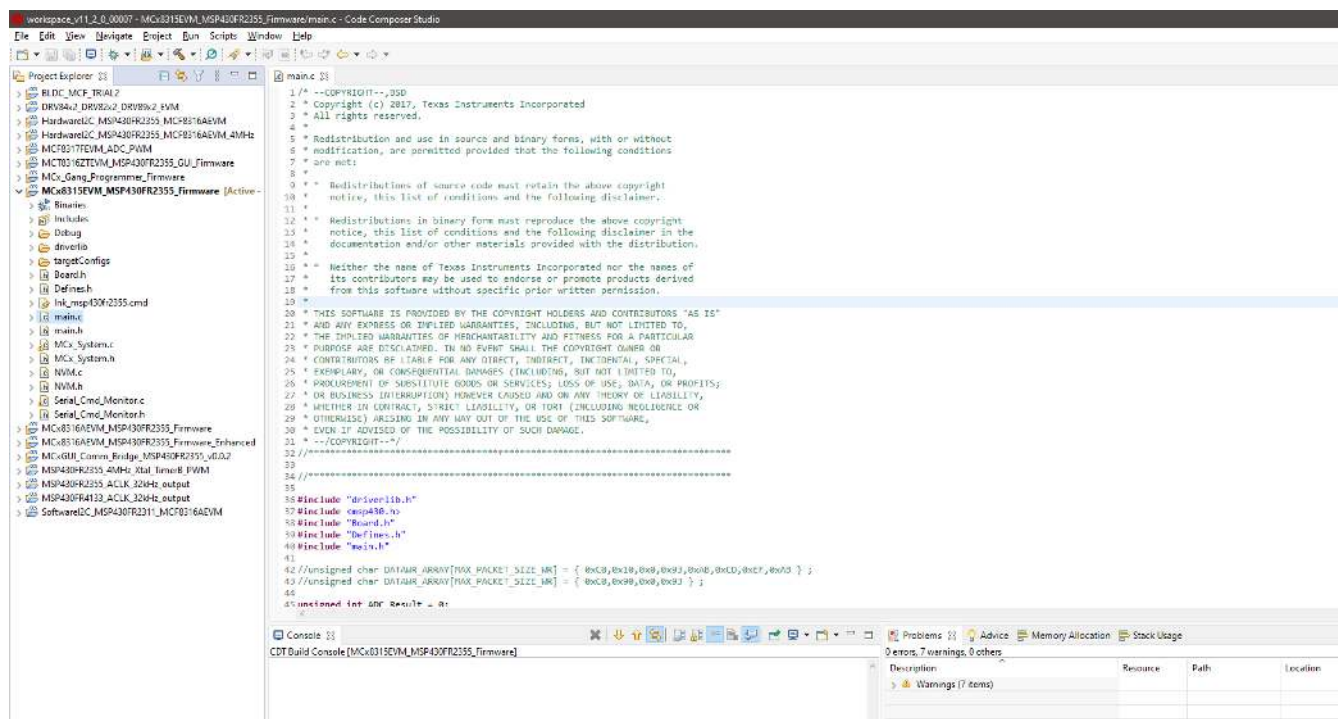

Figure 7-1. MSP430FR2355 Interface Firmware Code in Code Composer Studio
6. Import the project “MCx8315EVM\_MSP430FR2355\_Firmware” into your workspace as shown in Figure 7-1.